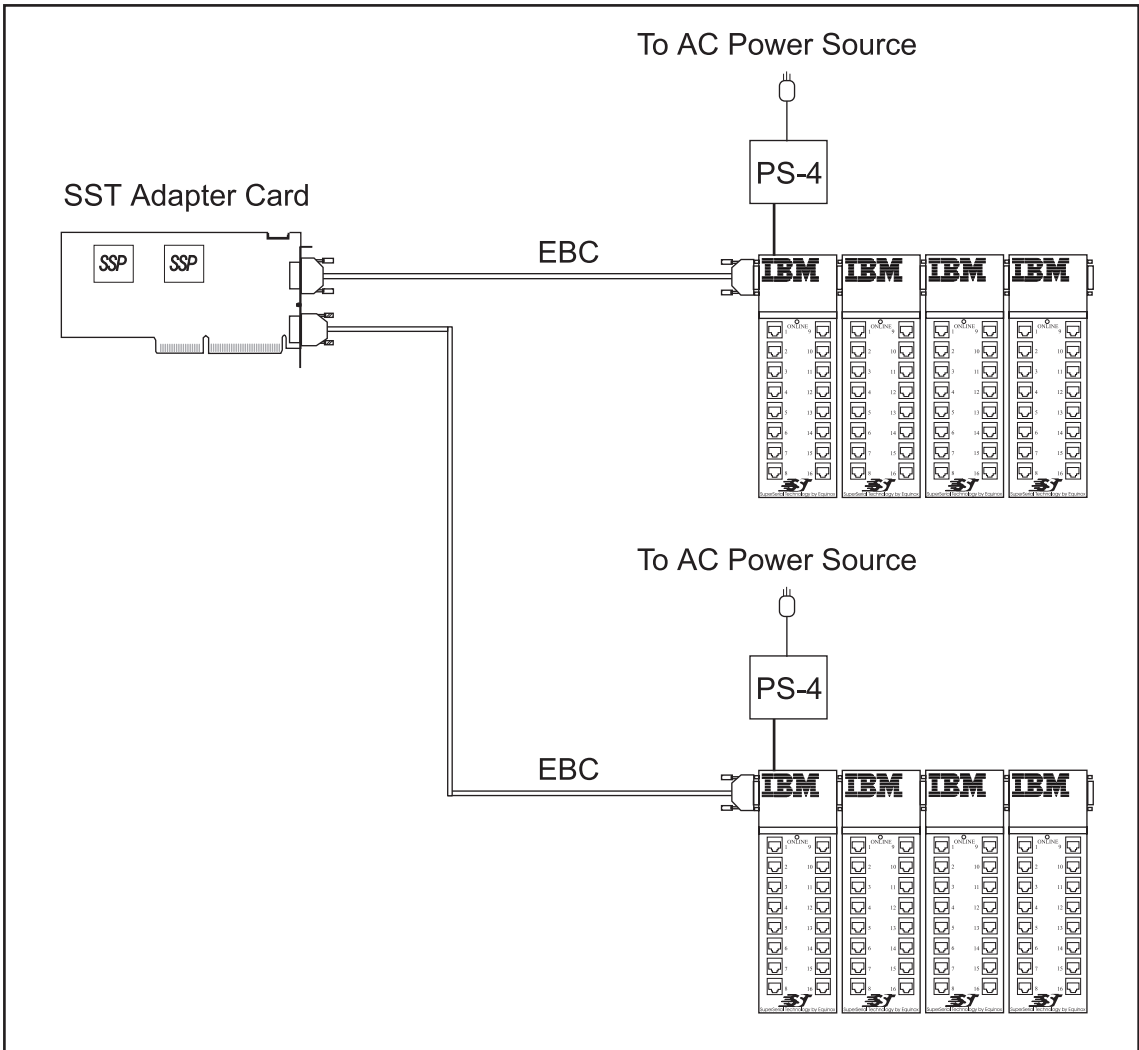

Figure 1-11. Maximum Number of Ports Per Adapter (128)
Figure 1-11 illustrates a *Serial I/O Subsystem* using the maximum number of ports (128) for an Adapter.